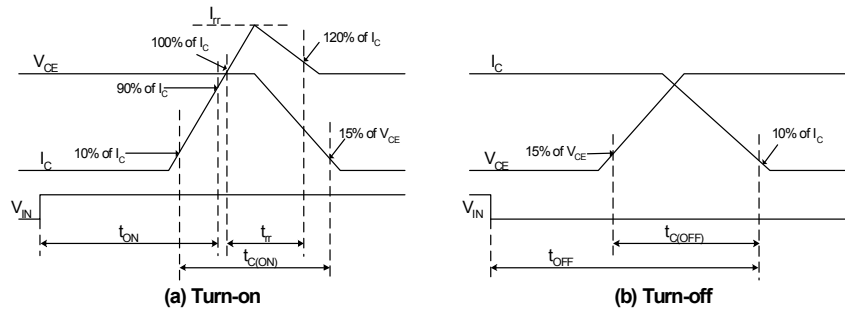

Fig. 4. Switching Time Definition
1. t_{ON} and t_{OFF} include the propagation delay time of the internal drive IC. $t_{C(ON)}$ and $t_{C(OFF)}$ are the switching time of IGBT itself under the given gate driving condition internally. For the detailed information, please see Fig. 4